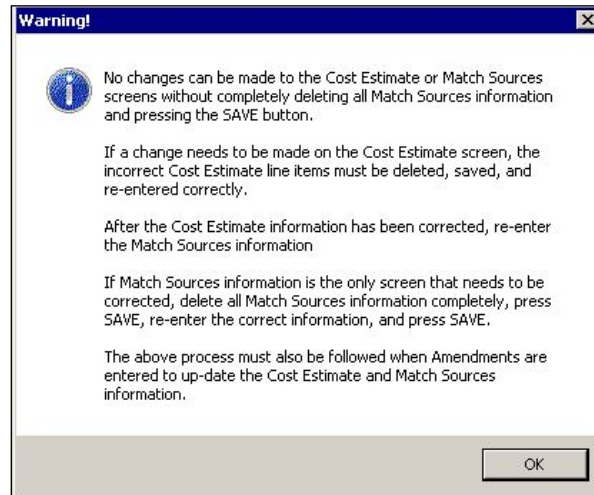

Figure 6-43: Warning About Cost Estimate or Match Sources Changes
1. Click the **Cost Estimate** tab. A warning message about making changes to Cost Estimate or Match Sources is displayed (Figure 6-43).